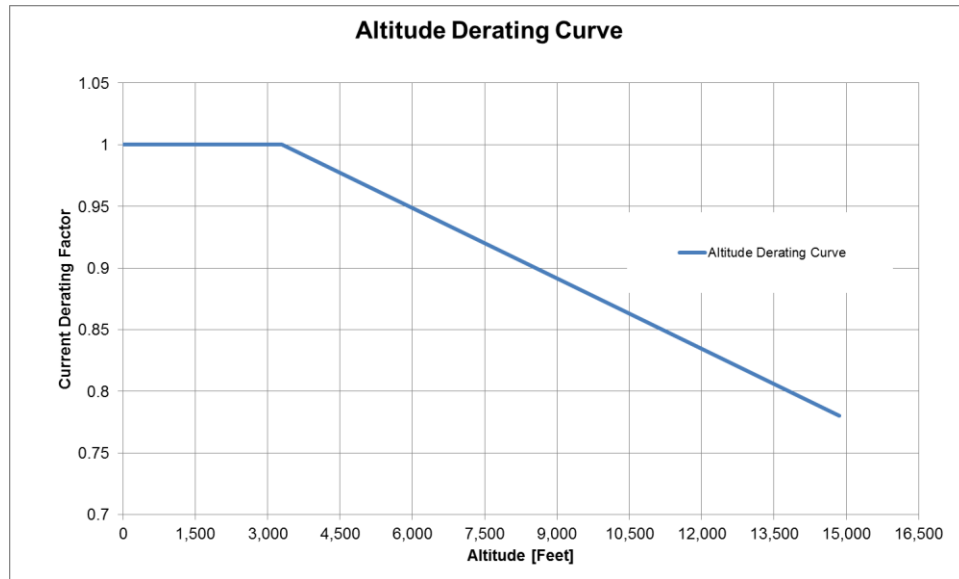

Figure 3-4: Altitude Derating Curve
- ☐ **Altitude:** 3,300 feet above sea level without derating. See Figure 3-4: Altitude Derating Curve (p13) for derating curve.